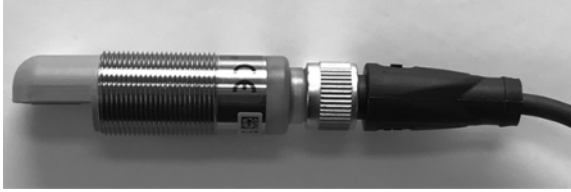

Figure 1
- 1.) Install an M12 cordset onto the sensor's connector (Figure 1).